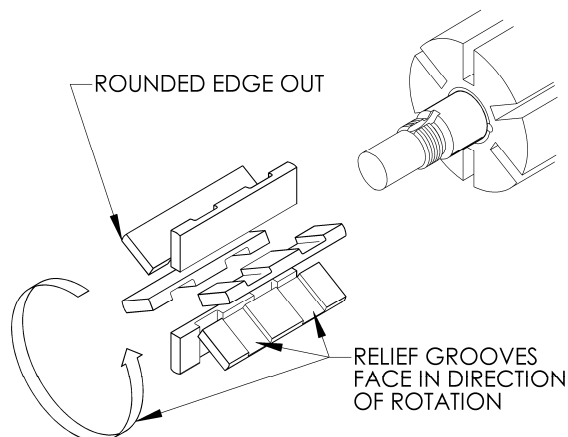

Figure 8 – Vane Installation
3. Turn the shaft by hand until a vane (14) comes to the top (12 o'clock) position of the rotor. Remove the vane.
4. Install a new vane (14), ensuring that the rounded edge is UP, and the relief grooves are facing towards the direction of rotation. See Figure 8.
5. Remove the vanes (14) and push rods (77) from the rotor and shaft assembly. Inspect for wear and damage, and replace as follows:
- a. Insert the vanes into the bottom three rotor slots with the relief grooves facing in the direction of pump rotation, and with the rounded edges outward. See Figure 8.